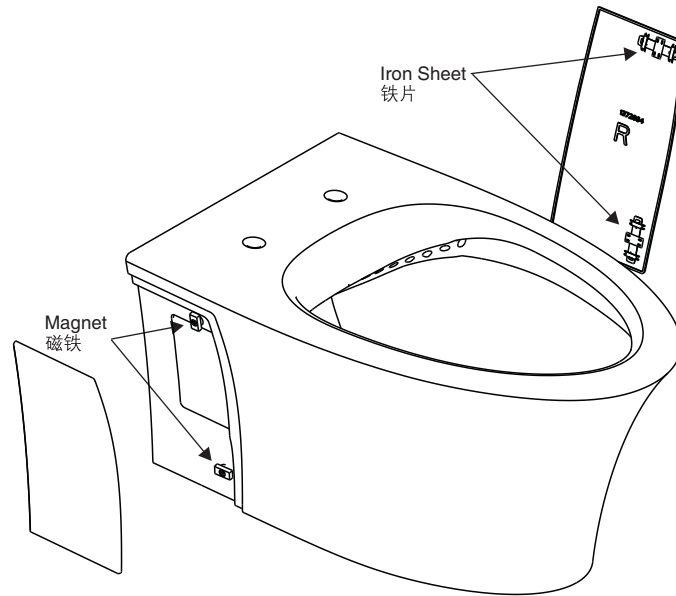

Fig. #6 图6
**NOTE:** The left panel (L) and right panel (R) are not interchangeable and they shall be respectively fixed onto the left side and right side of the bowl as shown in Fig.6.
注意：左右侧板不可相互替换，左侧板（L）和右侧板（R）对应陶瓷的左、右侧，如图6。